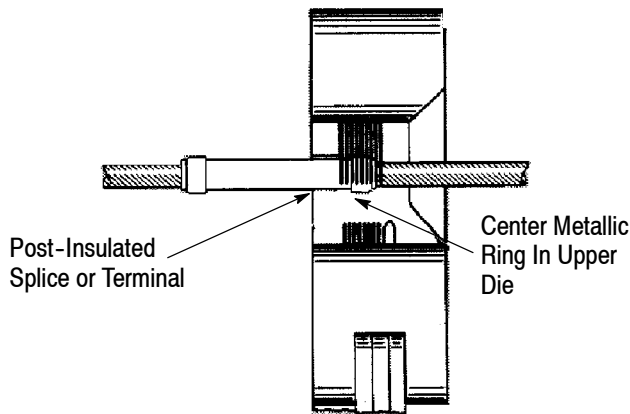

Figure 2
4. Center the metallic ring on the splice or terminal in the dies, as shown in Figure 2.